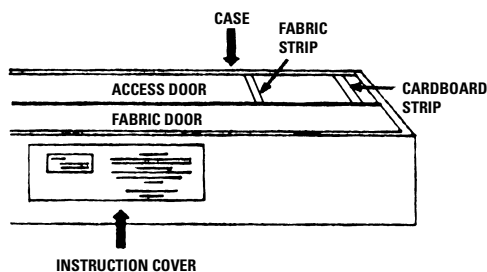

FIGURE 1
2. Remove instructions cover and please read instructions. (Fig. 1)
3. Remove fabric and cardboard strips from access door. (Fig. 1)